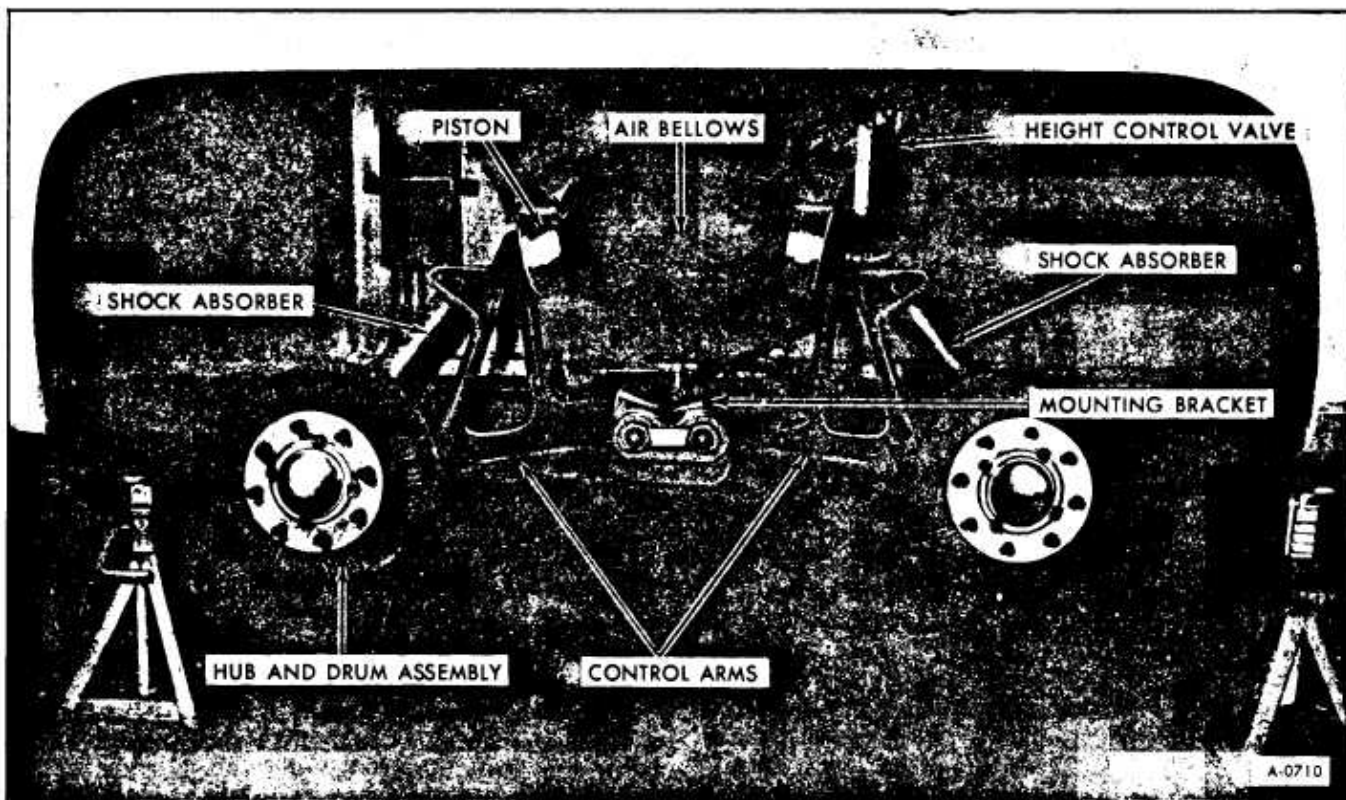

Figure 1—Rear Suspension (Left-Side View)
The rear suspension system (figure 1) on the vehicle consists mainly of air bellows, height control valves, control arms, and shock absorbers. The system operates automatically as load varies, to retain frame at proper ride height.
**CAUTION:** Whenever it is necessary to support the rear suspension with jack stands or other supporting equipment, as shown in figure 1, be sure jack stands are used only at a junction point(s) of the frame rail and crossmember. Failure to locate jack stand as instructed could result in damage to frame of vehicle.